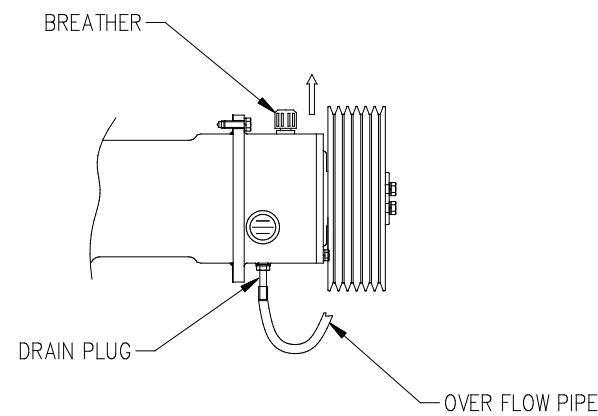

Fig. 6.9.6
2. Remove any piping that may be routed in such a way that it will hamper the removal of the horizontal shaft assembly. (Fig.6.9.6).